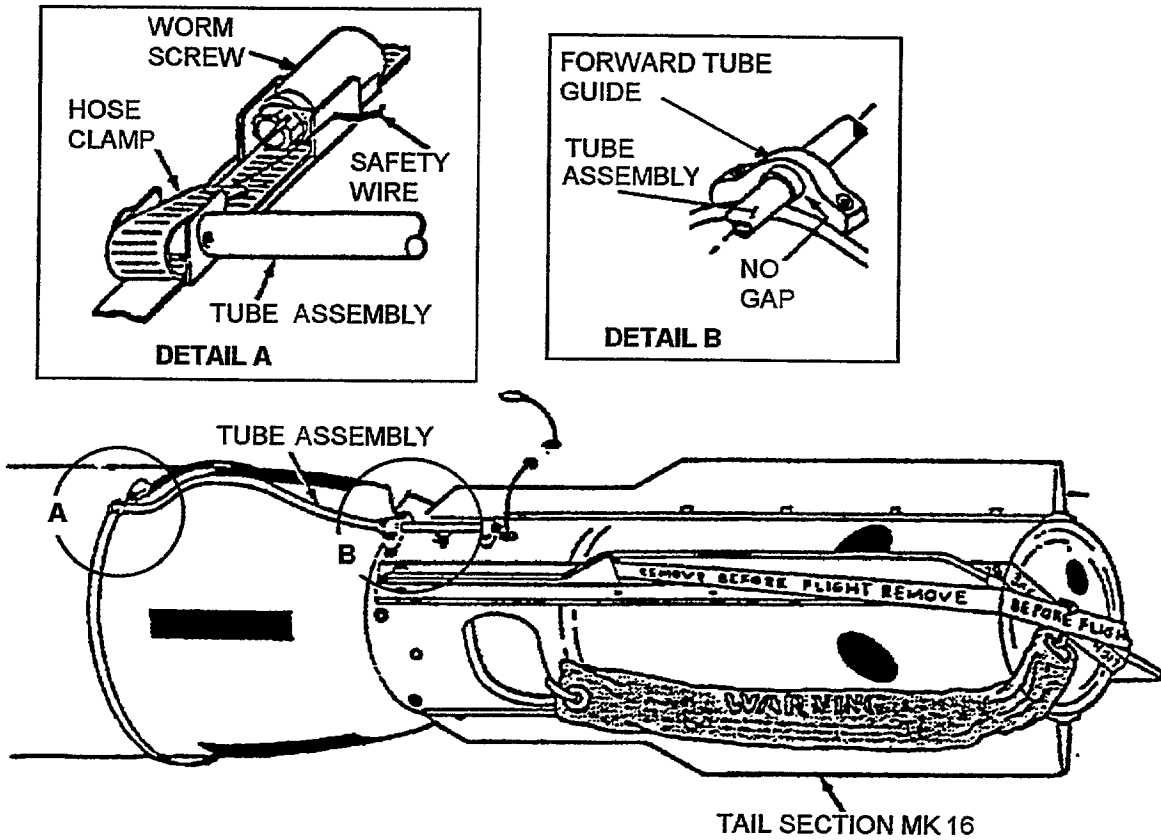

Figure 4-13D. Tube Assembly and Hose Clamp Installation
- (1) Torque the four setscrews at approximately the 1, 7, 4 and 10 o'clock positions, in that order, to 15 ft-lb.
- (2) Starting at the 1 o'clock position and moving in a clockwise direction, torque all screws to 15 ft-lb.
- k. Position tube assembly so rolled end of tube assembly is pointing forward, away from tail section, and curved portion of tube assembly is right of the tail centerline when viewed from rear of tail (Figure 4-13D).
- m. Carefully insert straight end of tube through forward and aft tube guides on top of tail until collar on tube assembly is fully engaged in forward tube guide (Figure 4-13D, detail A).
- a. With worm screw of hose clamp facing up, lay slotted end of strap in channel of bracket that contains safety wire holes, and push end of strap through opening under the tube (Figure 4-13D, detail B).
- b. Pull slotted end of strap through tube bracket, wrap hose clamp strap around bomb, and start slotted end of strap in worm screw. Tighten clamp until most slack is removed, but clamp still moves (Figure 4-13D).
- f. Bend end of hose clamp strap back over tube assembly. Thread a length of safety wire through slot on end of strap and through both safety wire holes, passing over hex head of worm screw (Figure 4-13D, detail B).